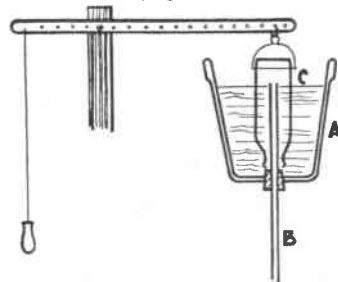

Fig. 4
A PLANT pot (A) has a fairly wide piece of glass tubing (B) passing through a cork in the bottom. (C) is a bottle supported on a wire and attached by wire loop to the end of a Meccano strip. (Fig. 4)
seventeenth century that in Fig. 4 was used.